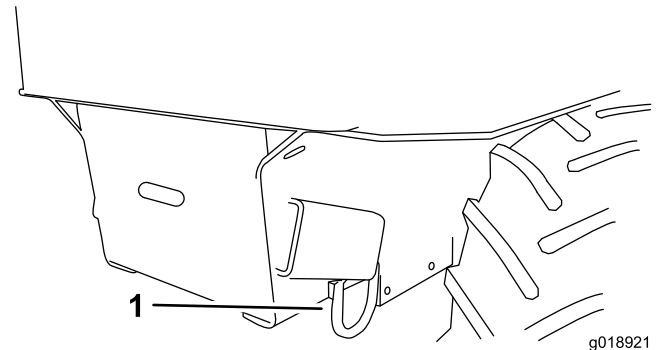

Figure 21
9. Fasten the front of the machine to the trailer using chains and a binder. Use the front tie down hole (Figure 21) to secure the machine.